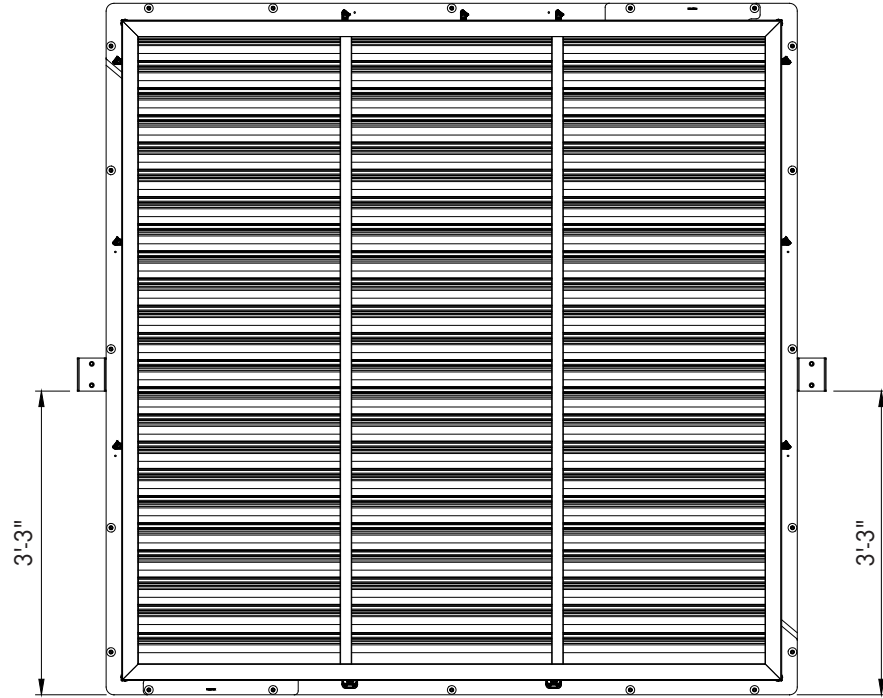
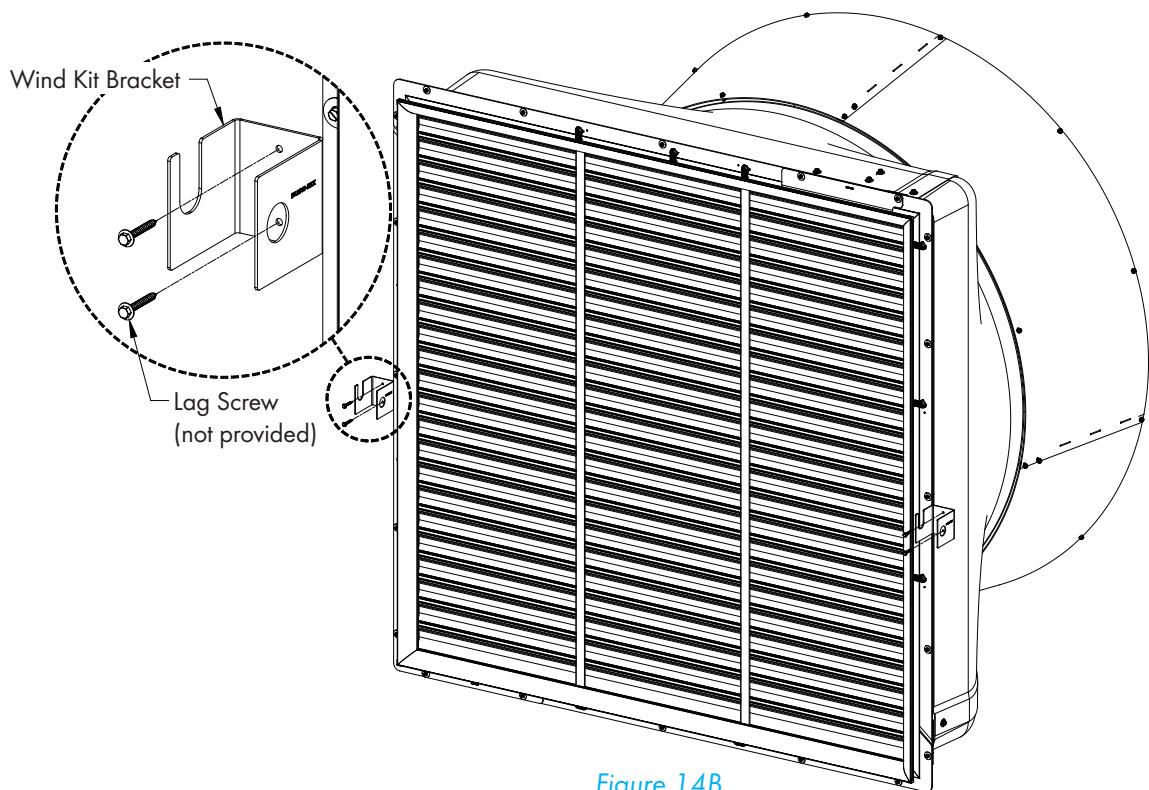

Figure 14A
Figure 14B
Mount one Wind Kit Bracket on each side of fan, 3'-3" above the bottom flange of fan. The opening in the 'U' slot should be facing up and each Bracket should be mounted in same direction. See Figure 14A. Fasten Brackets in place using (2) Lag Screws (not provided). See Figure 14B.